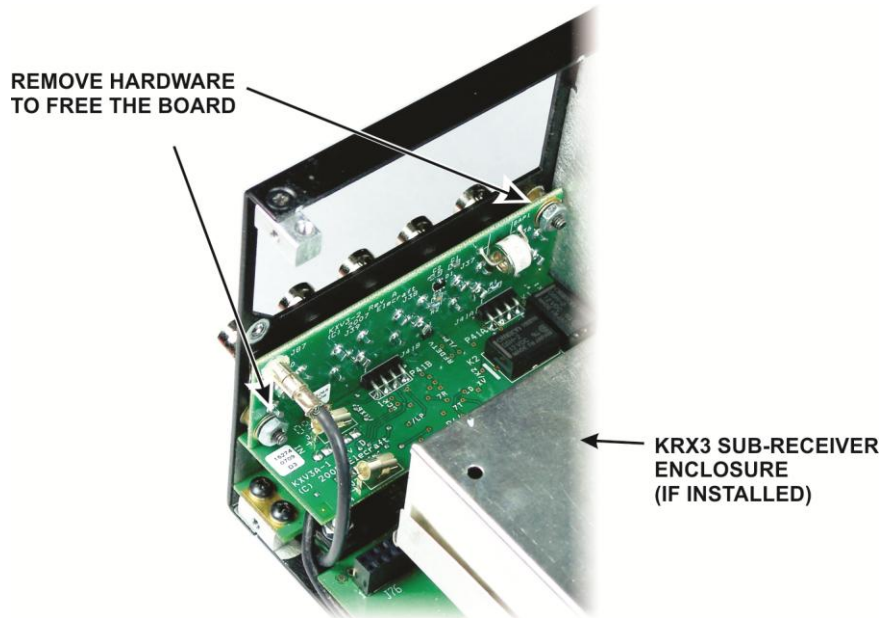

Figure 9. Removing the KXV3 Board.
□ You can leave the KXV3 board (Figure 9) in place or unplug it at this time. If left in place, be careful that you don't dislodge it accidentally.
If present, replace the KXV3 rear panel and secure the assembly using the two 4-40, 1/2" (13mm) screws, #4 lock washers and 4-40 nuts that you removed earlier (Figure 9, pg 6).